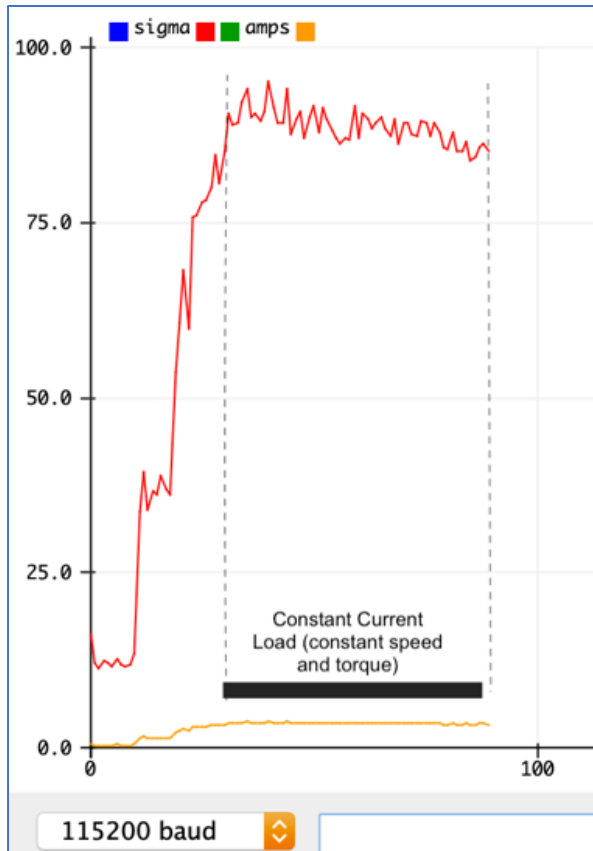

Figure 6 Filtered signal trace in Arduino serial monitor
As shown in figure 6, although uncalibrated, the Arduino sketch with running averaging can show a representative trace of the signal. In the figure, the sigma value represents the raw value the Arduino reads on the analogue input. This value is then converted to the amps value through a calculation of the relationship between the input and output as mentioned above.
- Use the sketch in folder labelled “Code for Arduino motor control and serial monitor” to control the motor in the setup in figure 7 and take a reading of a single phase of the current using data averaging and a high pass filter as shown in figure 6.